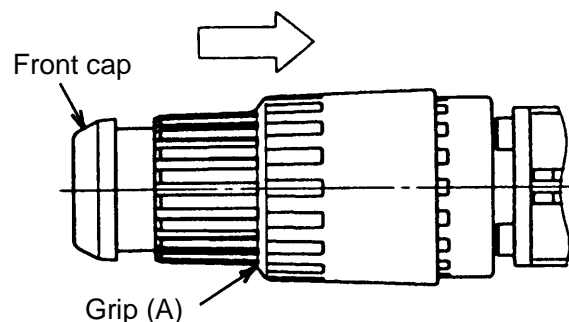
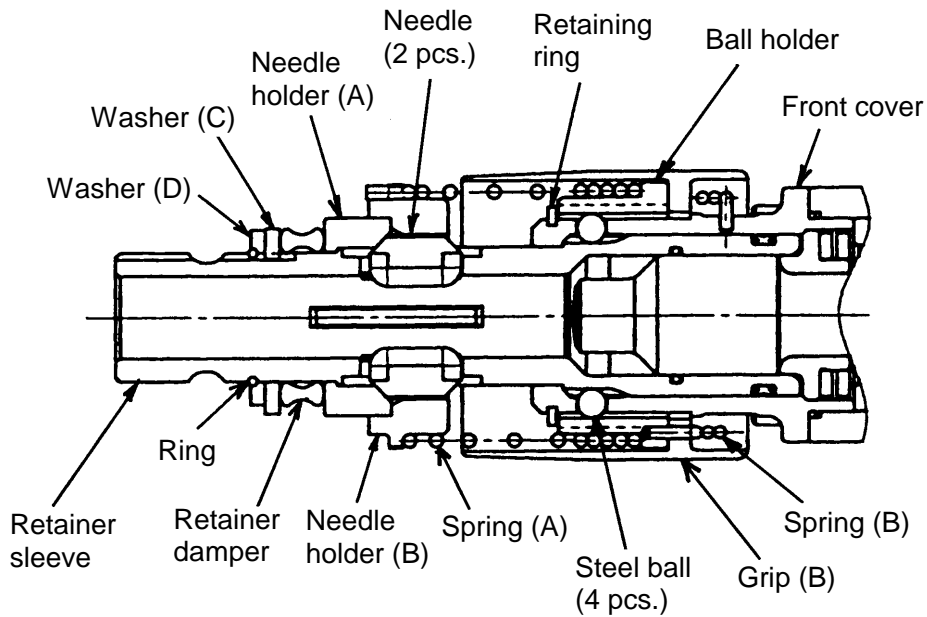

Fig. 12
Fig. 13
- Retainer disassembly (See Fig. 12 and Fig. 13)
Grip (A) **[2]** fully in direction indicated by the arrow as shown in Fig. 12 and remove the Front Cap **[1]** (since the Front Cap is made of rubber, grasp its outer face and strongly pull it to remove). This allows Grip (A) to be separated from the Retainer Sleeve **[18]**.
when the Ring [3] is removed by means of the snap ring remover, Washer (D) [4], Washer (C) [5], Retainer Damper [6], Needle Holder (A) [7], Needle Holder (B) [9], Needle [8] (2 pcs.) and Spring (A) [10] can be removed from the Retainer Sleeve [18]. Furthermore, when the S-Type Retaining Ring [11] is removed by means of the snap ring remover, Ball Holder [12], Grip (B) [13], Steel Ball [15] (4 pcs.) and Spring (B) [14] can be removed from the Front Cover [17] (Fig. 13).